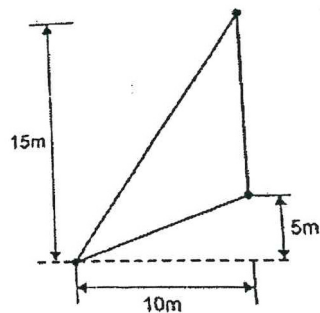

Fig. 14 (a)
- 14. a) For the triangular element as shown in the Fig. 14 (a) determine the strain-displacement matrix  $[B]$  and constitutive matrix  $[D]$ . Assume plane stress conditions. Take  $\mu = 0.3$ ,  $E = 30 \times 10^6 \text{ N/m}^2$  and thickness  $t = 0.1\text{m}$ . Also calculate the element stiffness matrix for the triangular element.